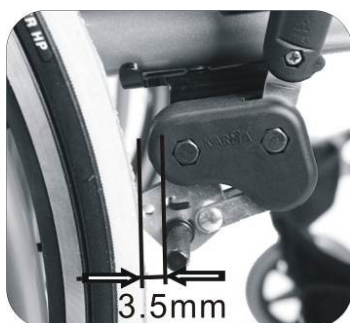

Figure 4.48
4.12.4 Always use the handrims for braking when you are in a moving wheelchair. Make sure that the interval between the tires and the brakes complies with the given specifications. (See Figure 4.48)